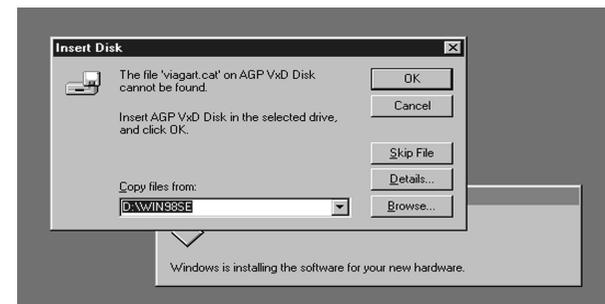

Figure 1-2
2. After clicking "**OK**", you will be prompt that the file Digital.inf on AGP VxD Disk can not be found (See figure 1-2 below). Click on the "**Skip File**" to finish Installation.